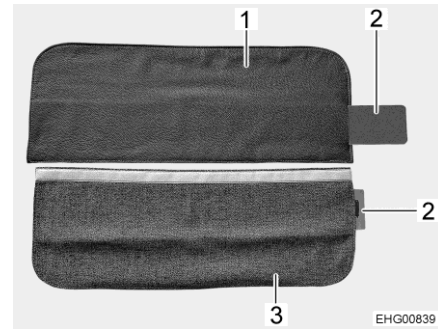

Fig. 92 Seat belt cover
The seat belt cover can be made of leather (Fig. 92,1) or fabric (Fig. 92,3).
- Slide the metal reinforcement plate (Fig. 92,2) completely into the pocket of the seat belt cover (Fig. 92,1 or Fig. 92,3).